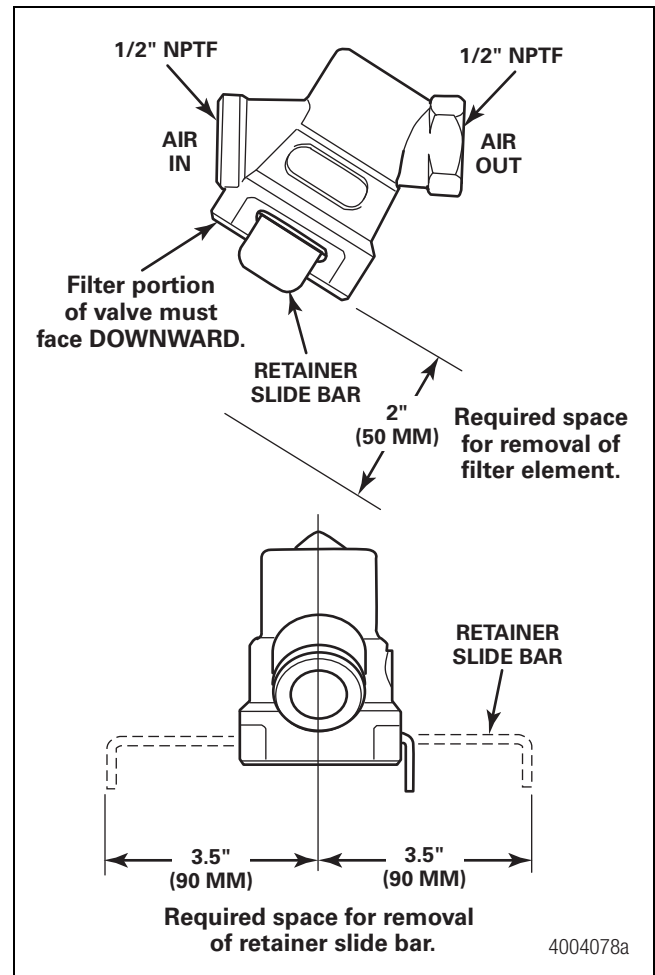

Figure 15
- The in-line filter valve must be installed with the filter portion facing DOWNWARD so that the air line ports are horizontal. Figure 15.
- Allow sufficient clearance for servicing the valve. A minimum of 3-1/2-inches (89 mm) to release the retainer slide bar and a minimum of two-inches (50 mm) to allow for the removal and installation of the internal components is required. Figure 15.